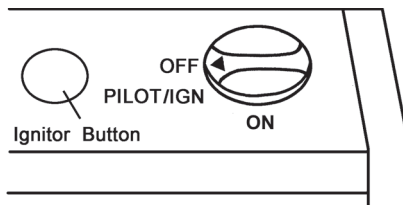

Figure 16 - Control Knob In The OFF Position (0696541 and 1096541)
3. Push in gas control knob slightly and turn clockwise ↻ to the OFF position (see Figures 16).
4. Wait five (5) minutes to clear out any air. Then smell for gas, including near the floor. If you smell gas, STOP! Follow "B" in the safety information on the side of the heater. If you do not smell gas, go to the next step.
5. Push in gas control knob slightly and turn counterclockwise ↻ to "PILOT/IGN" and depress for five(5) seconds